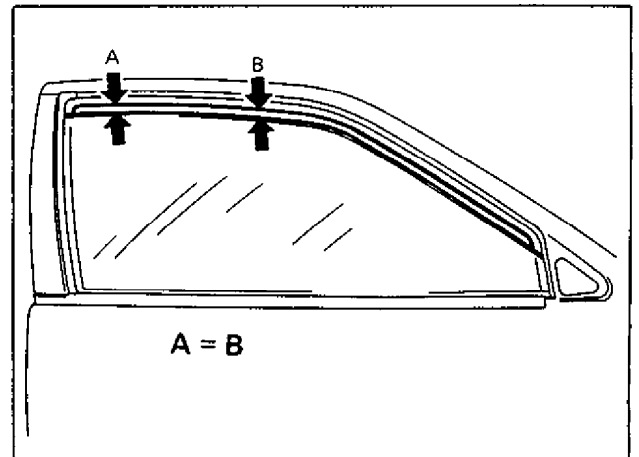

Fig. 9-7
- 2) Adjust equalizer of window regulator so that measurements A and B in Fig. 9-7 are equal to each other.